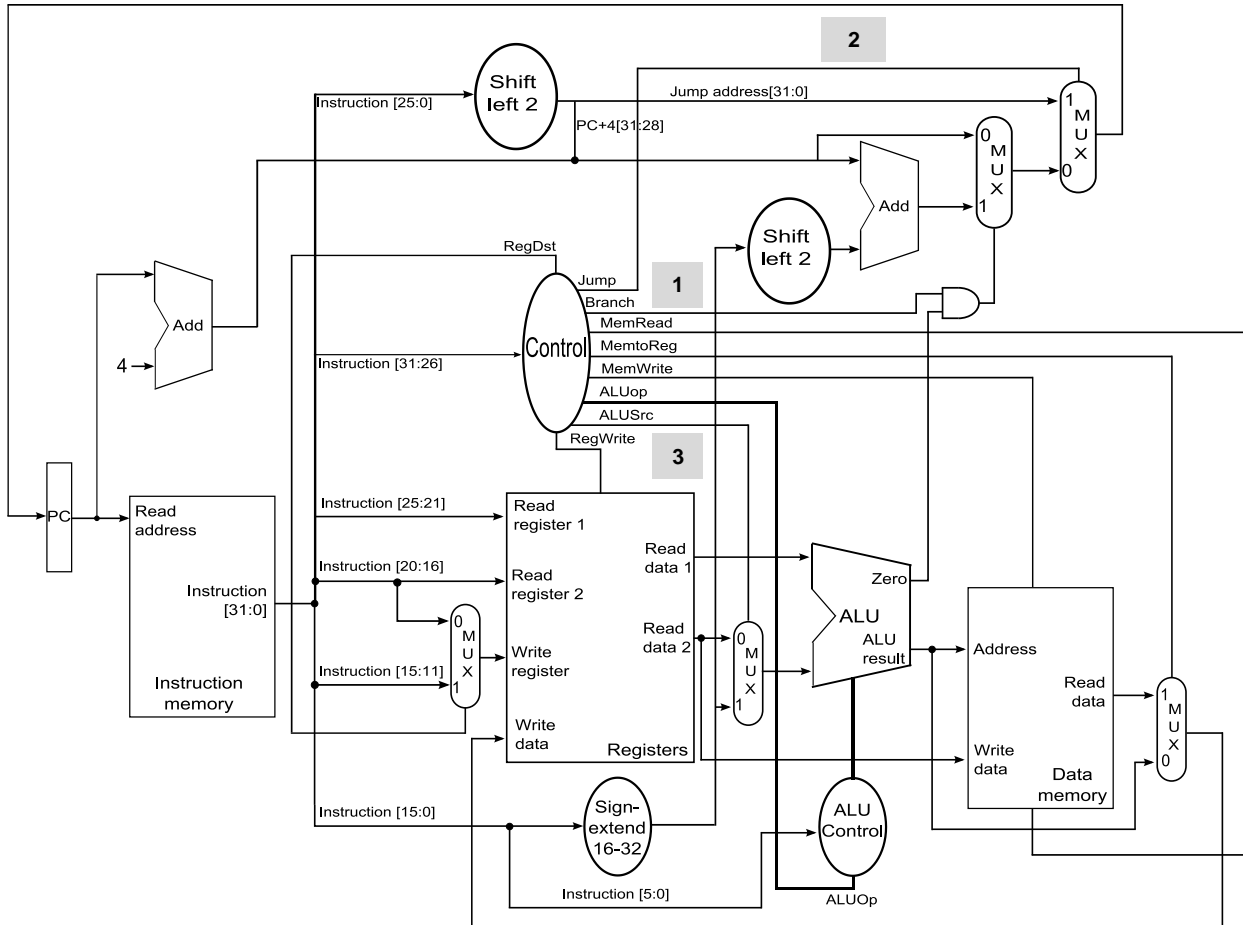

Figure 1
4. Consider enhancing the processor design in **Figure 1** to implement the SLL instruction:
The datapath will be modified as shown below (anything not shown here remains unchanged from **Figure 1**):
- c) **[8 points]** Describe any resulting changes that would have to be made to the version of the MIPS32 datapath hardware shown in **Figure 1** to accommodate the new I-format design.